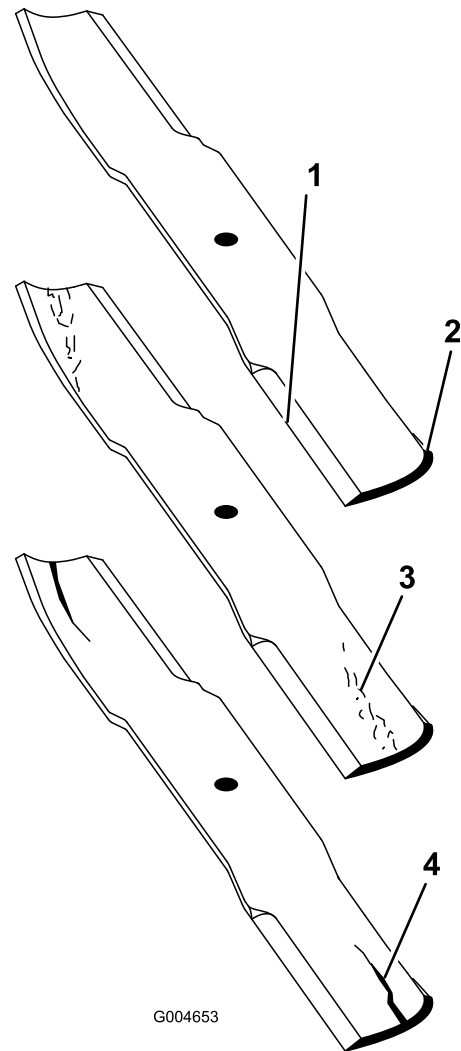

Figure 125
2. Examine the cutting ends of the blade carefully, especially where the flat and curved parts of the blade meet (Figure 125).
Note: Because sand and abrasive material can wear away the metal that connects the flat and curved parts of the blade, check the blade before using the mower. If wear is noticed (Figure 125), replace the blade.